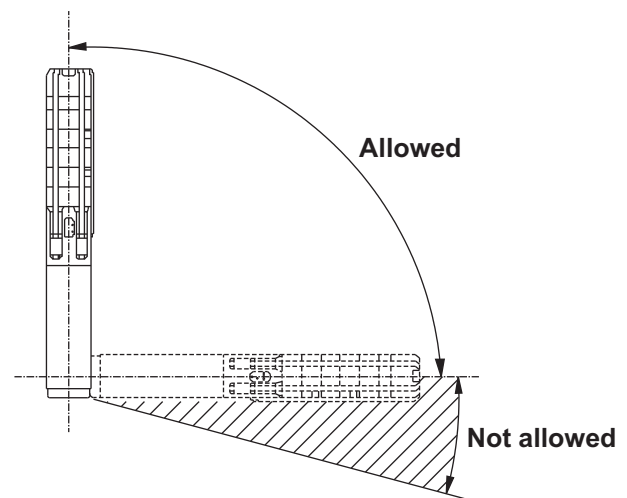

Fig. 4 Pump position
- Depending on motor joining size, the pump can be installed either vertically or horizontally (horizontal installation allowed only if the pump size is identical to the motor size, e.g. 6" pump with 6" motor), however, the pump shaft must never fall below the horizontal plane, see fig. 4.